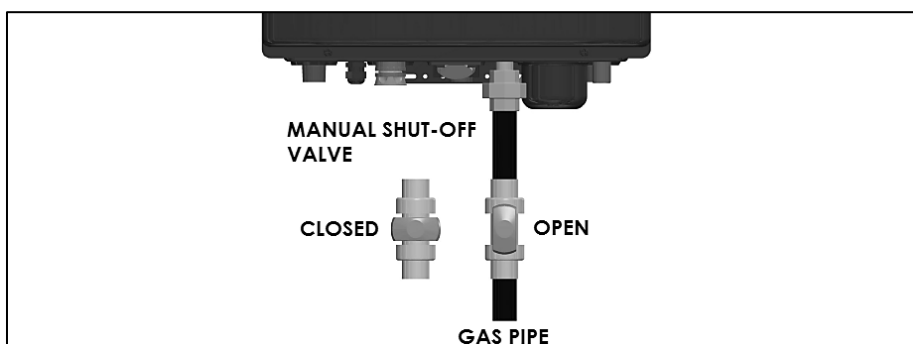

Figure 16 – Gas Line with Shut-Off Valve Detail
4. A manual gas shut-off valve should be installed in the gas supply line close to the appliance. See Figure 16 for detail.